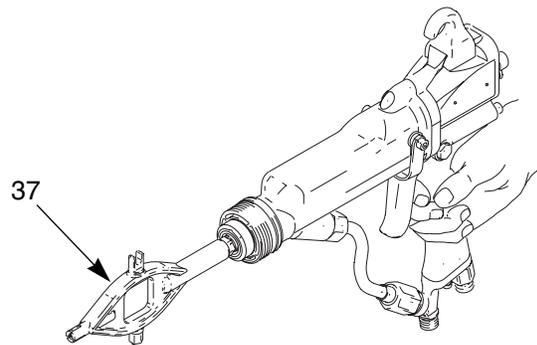

Fig. 9. Seat Housing Replacement
4. Trigger the gun and remove the seat housing (2) with the tool (37) provided. See FIG. 9.